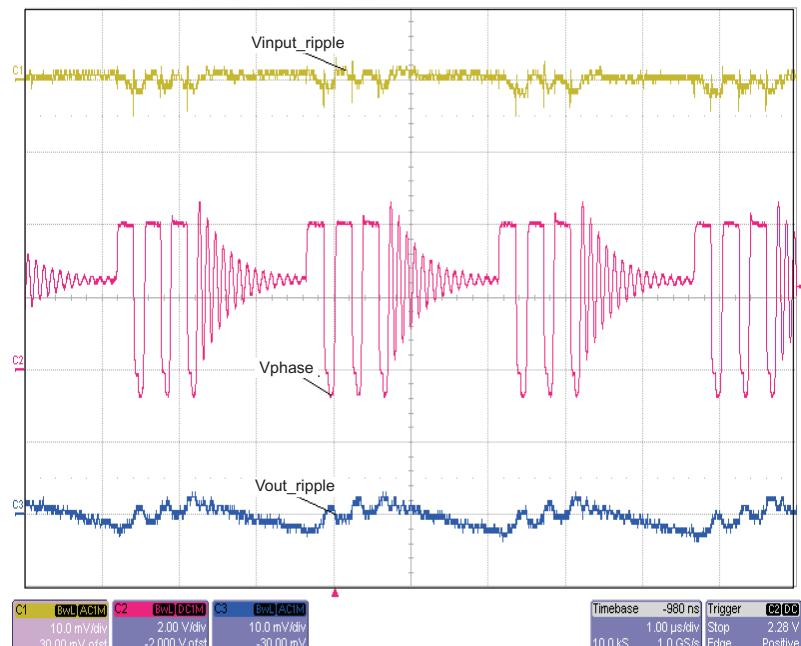

Figure 3. PFM Mode. Vin = 4 V, Vout = 2.5 V, Iout = 25 mA. DCM Operation, Therefore PFM Mode CH1 = Input Ripple; CH2 = Phase; CH3 = Output Ripple
4. Change the load to from 5 Ω to 100 Ω , 0.25 W. Observe the change in the switching waveforms. As the load is reduced, the inductor current becomes discontinuous, and the control automatically switches to PFM mode. Users may need to change the time scale on the oscilloscope to 1 μ s/div for light loads (see Figure 3). Set the load back to approximately 5 Ω .